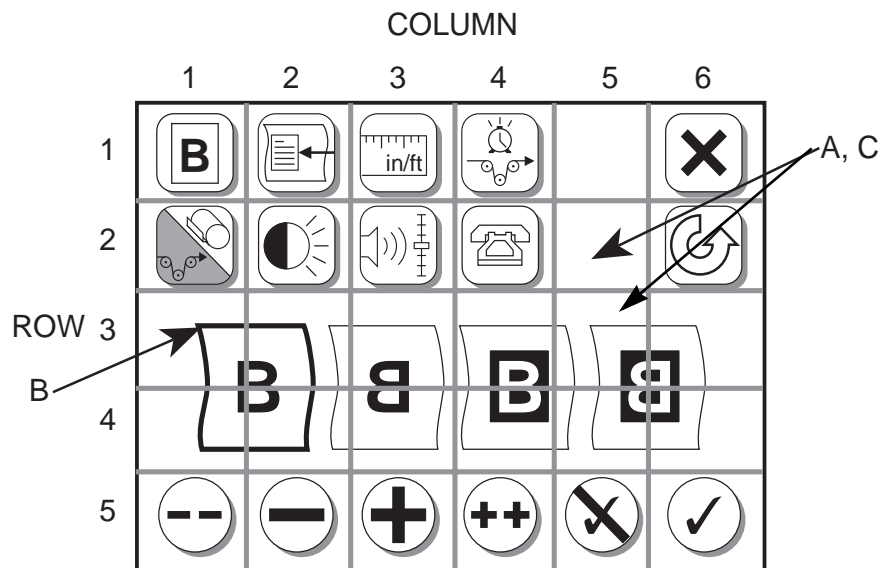

Figure 5-6 The Secret Screen.
1. The slack loop test function is located on the Secret Screen of the Avantra Control Panel. Press the proper key sequence on the "Configuration" Screen to enter this special screen. Refer to Figure 5-6.